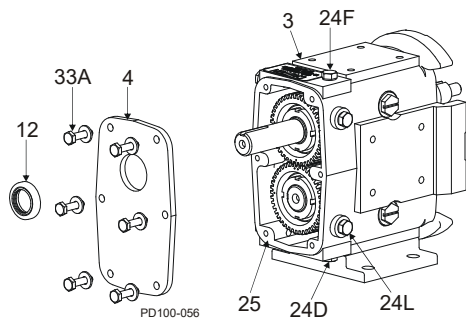

Figure 192 - Remove Gear Case Cover
1. Remove the oil drain plug (Figure 192, item 24D); drain the oil.
2. Remove the cap screws from the gear case (Figure 192, item 33A).
3. Pull the cover (item 4) off the shaft extension. If the cover sticks, use a soft hammer to loosen it.
4. Remove the silicone sealant (item 25) from the gear case and cover.
5. Using an arbor press, remove the oil seal (item 12) from the cover. Discard the used oil seal.